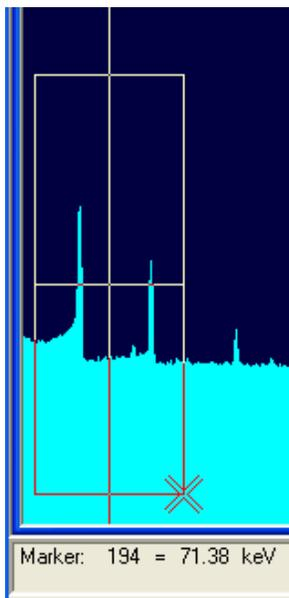

Figure 8. Rubber Rectangle Crosshair.
- Drag the mouse diagonally across the area of interest. As you drag, the mouse will be drawing a reverse-color rectangle bisected by the marker line to form a “crosshair” (Fig. 8). This makes it easy to select the center channel in the area of interest — for instance, the center of an ROI you wish to mark or unmark, a portion of the spectrum to be summed, or a peak for which you want detailed information.